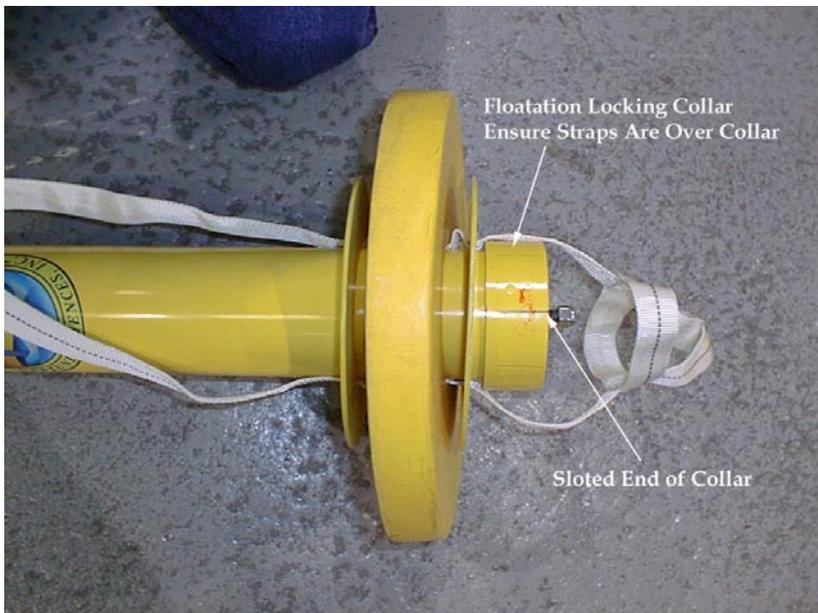

Figure 9
G. Slide the floatation locking collar on to the bottom of buoy with the slots on the collar facing toward the bottom of the buoy. Ensure the straps pass over the collar. (Fig. 9)